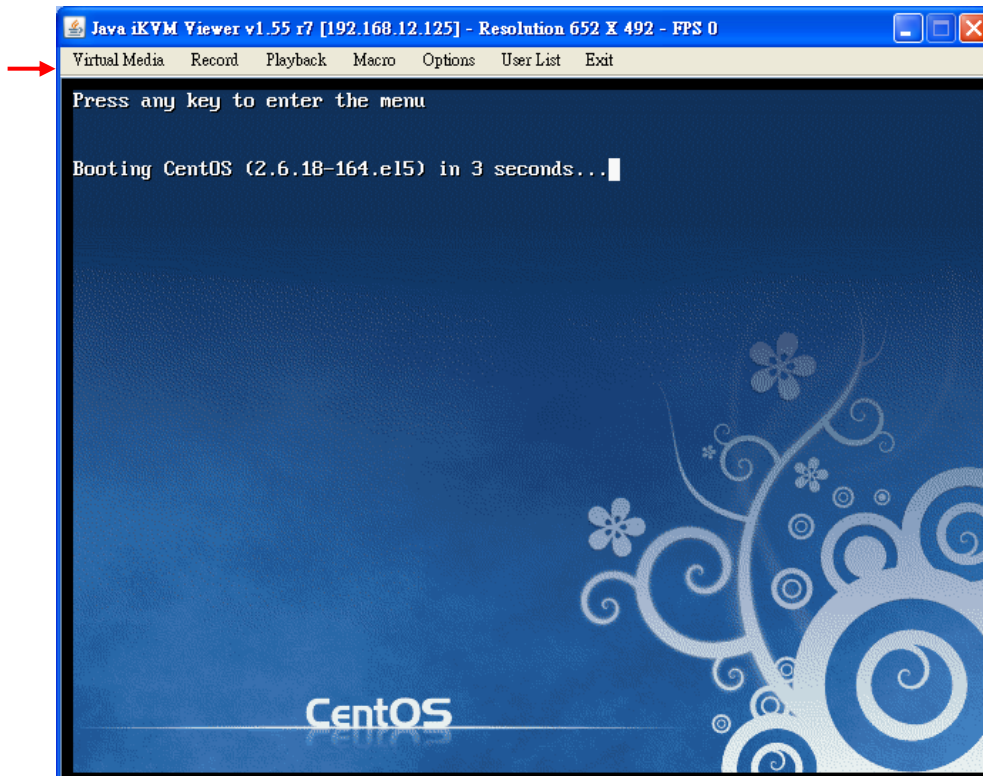

Figure C-2
Please note that SIM(WA) iKVM window supports the same features as other versions of Web KVM as shown in Figure C-2.